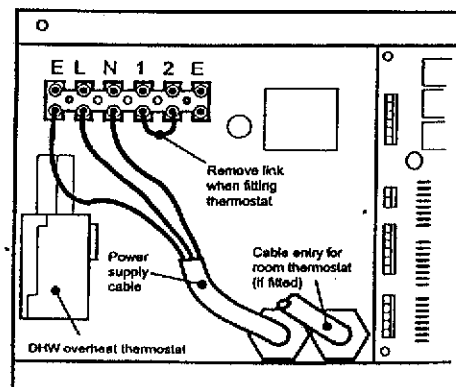

Fig. 13
3.6 CONNECT THE POWER SUPPLY (See Fig. 13)